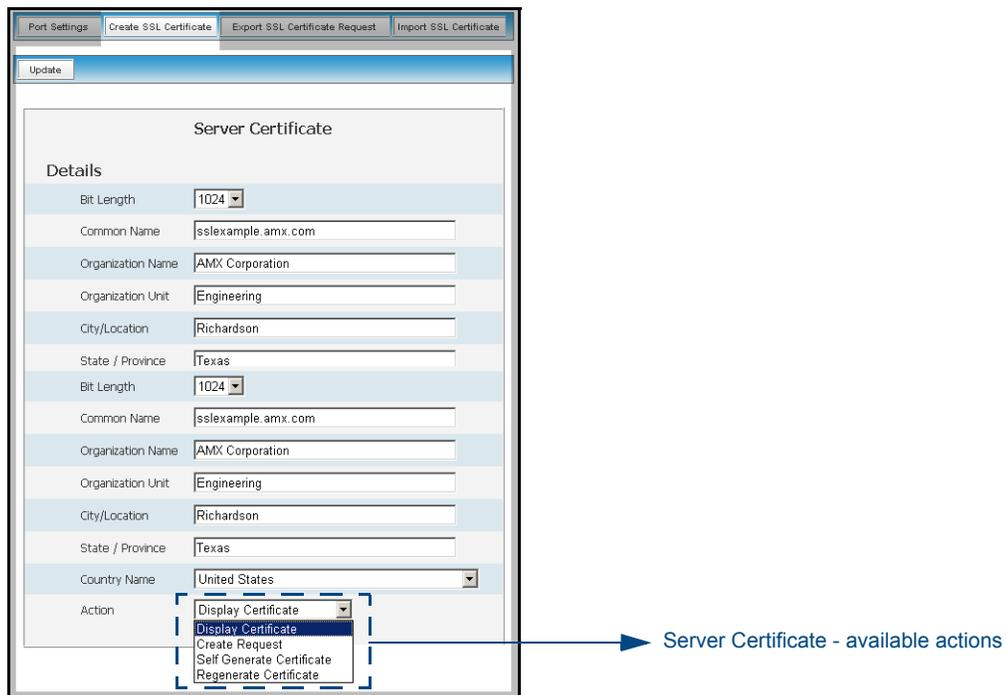

FIG. 51 Create an SSL Certificate dialog
1. Navigate to the Server Certificate page by clicking **System Settings > Manage System > Server > Create SSL Certificate** to open the Server Certificate page (FIG. 51).